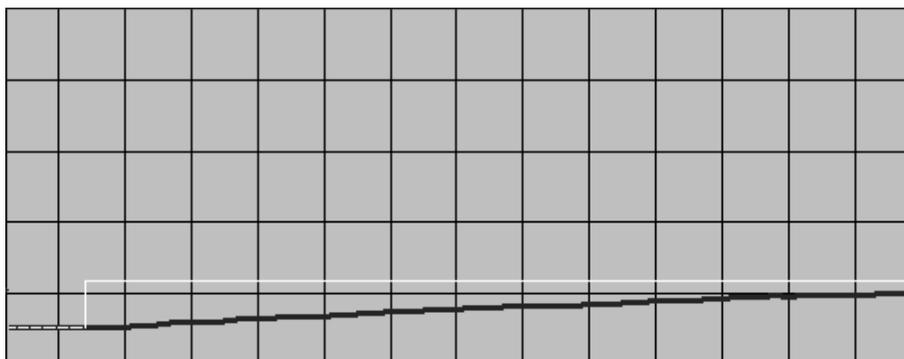

Figure 9: Effects of the Proportional Term (Low Proportional Term)
When the Proportional (P) term, or gain, is multiplied by the error signal, a proportional valve drive signal results. The higher the Proportional (P) control, the greater the change in valve drive signal for a given error signal. Typically, a higher Proportional (P) control setting yields a faster response. However, too high a Proportional (P) control setting will cause the mass flow rate to oscillate around the setpoint. Too low a Proportional (P) control setting will result in a slow response from the mass flow controller. Figures 9 and 10 show the effects of the Proportional (P) term.